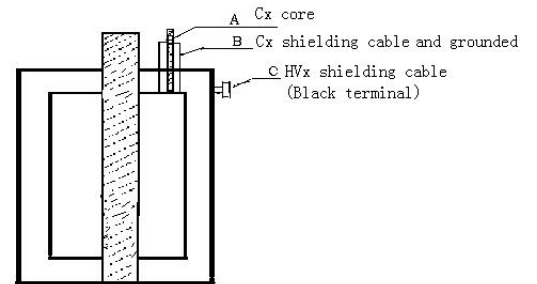

Figure 15 Connection of dielectric loss oil cup
B. Lead See Figure 15
D. (C)connected to HVx shielding cable (Black terminal)
E. (A) connected to Cx core
F. (B) connected to Cx shielding cable and grounded